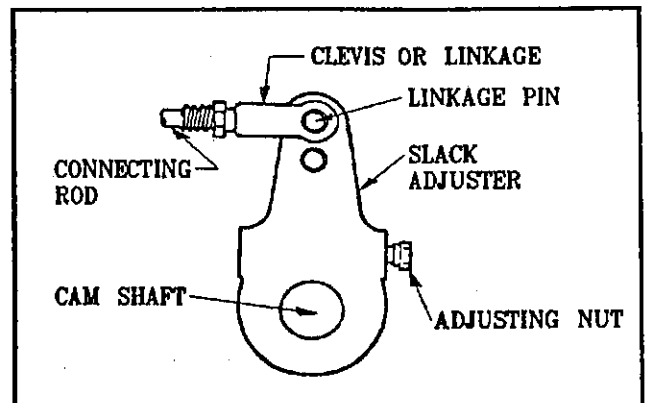

FIG. 5-4 SLACK ADJUSTER TERMINOLOGY
- b. Place a 9/16 in. wrench on the slack adjuster adjusting nut (See Fig. 5-4), and push in on the locking